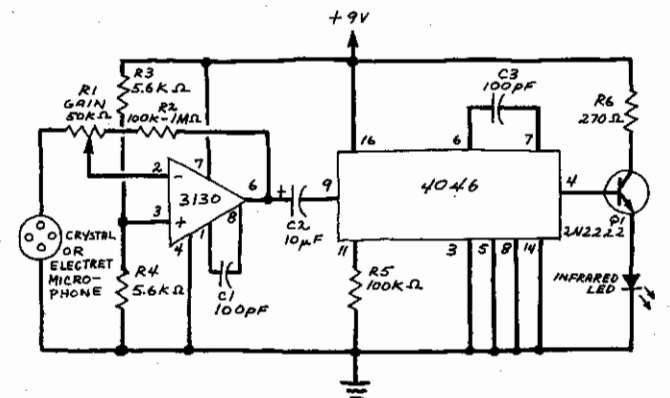
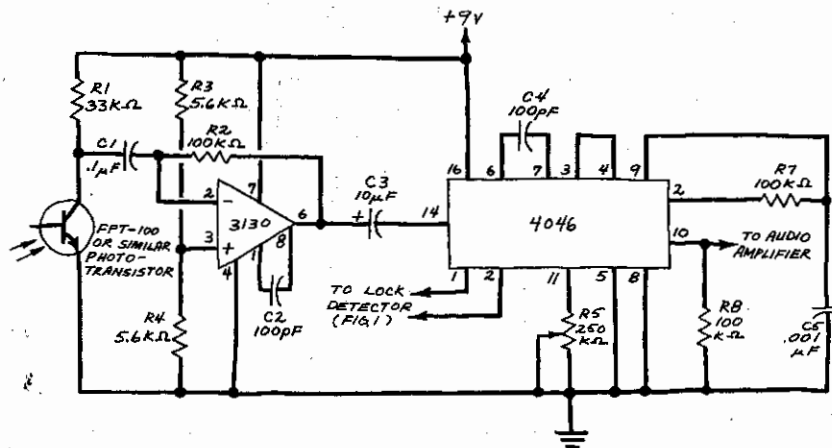

Fig. 6. Pulse-frequency-modulated lightwave voice transmitter.
Fig. 7. A receiver system to be used for detecting and demodulating the pulse-frequency-modulated signal from Fig. 6.
**Pulse Frequency Modulator.** The vco section of the 4046 can be used to make a simple pulse-frequency modulator which can be adjusted to provide a carrier frequency of 1 MHz or more. A simple pulse-frequency-modulated (pfm) lightwave voice transmitter, complete with a microphone preamp designed around a 3130 BiMOS op amp, is illustrated in Fig. 6. This circuit will also work with a 741 or other standard op amp. (Omit C1 if you substitute op amp for the 3130 that has an internal compensation capacitor.)
**Pulse Frequency Demodulator.** Figure 7 shows a receiver system suitable for detecting and demodulating the pfm signal from the transmitter of Fig. 6. In operation, the infrared signal from the transmitter LED is detected by a phototransistor and coupled into a 3130 BiMOS op amp. This is the same op amp used in the transmitter and it, too, may be replaced with a 741 or other standard op amp. (Don't forget to omit C2 if you use a 741.)
where  $f_c$  is the capture range and  $f_L$  is half the frequency lock range or, in this case, the vco center frequency. Substituting the values of R7 and C5 shown in Fig. 7 gives a capture range or bandwidth of  $\pm 12.6$  kHz.